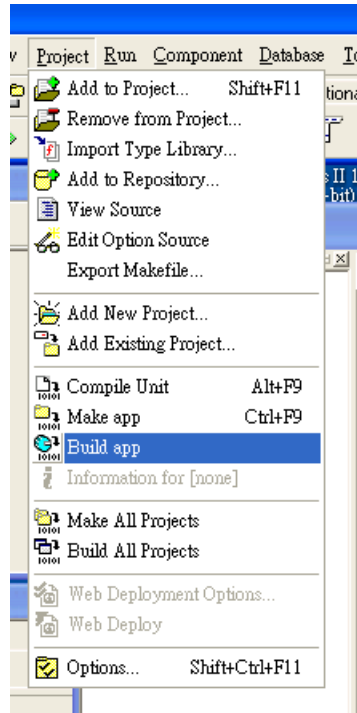

Figure 3-17 Build the project in Borland C++ Builder 6.0
5. Click “**Project**” and select “**Build app**” to build the project, as shown in **Figure 3-17**, to generate an execution file app.exe.